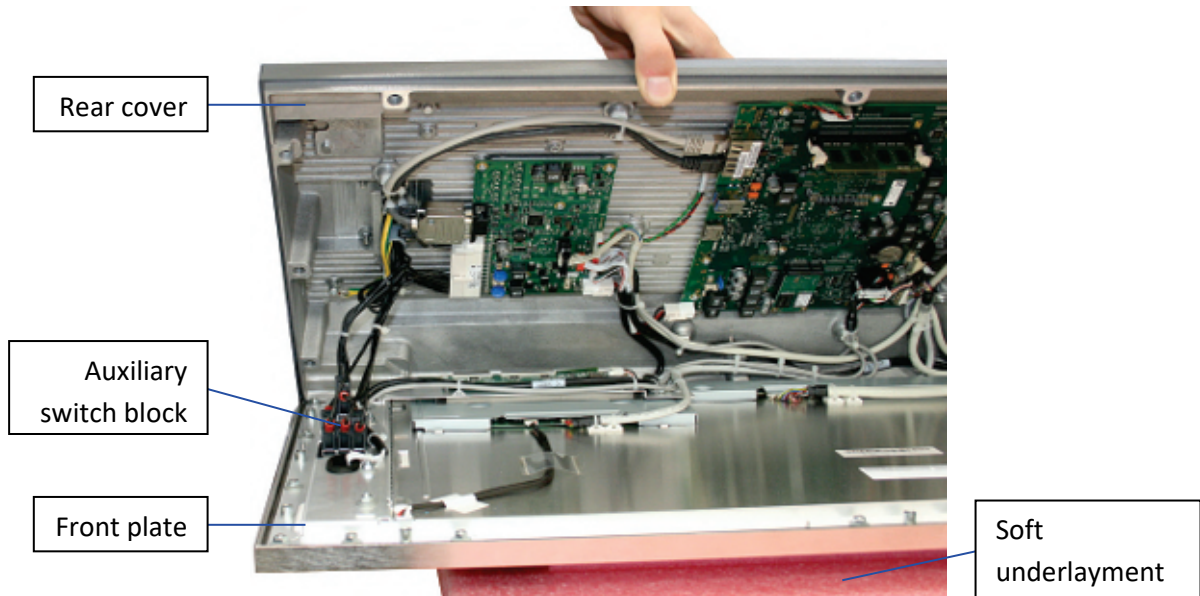

Fig. 26: Carefully open the CC300 a few inches
1. Place the device on a soft underlayment (e.g. a thick PE foam sheet) with the front plate facing down (see Fig. 26). Make sure that the underlayment is dimensioned so that only the glass plate rests on the underlayment and the emergency stop switch and the rotary/push button **do not** rest on the underlayment or table.
3. Lift the rear cover on the left side (seen from behind, with the emergency stop switch at the top!) carefully a few inches (see Fig. 26).
1. Carefully fold the aluminum rear cover back onto the front plate, but leave the rear cover open a few inches (see Fig. 26).